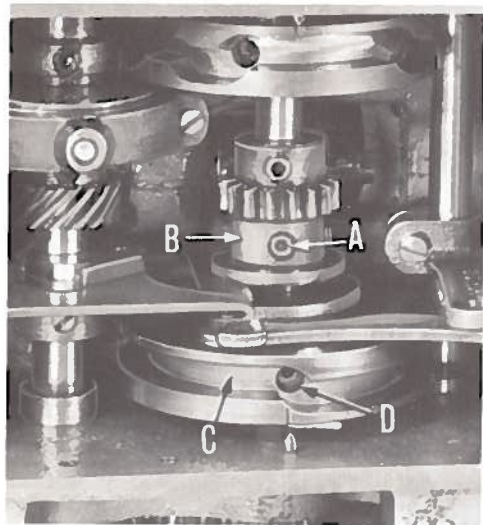

Fig. 15
On Style 200-10, the pull-off lever has an additional adjustment which causes it to function in the middle of the cycle during the cutting of the cross-over stitch. Loosen three socket head screws (A, Fig. 15) in cam (B).
Turn cam (B, Fig. 15) to the right, as you face it, until the lobe stops against the projection on the nipper operating link, and retighten three socket head screws (A).
To make corrections to knife timing, place machine in stop position for starting subsequent adjustment. Take machine out of stop position and turn the pulley two complete revolutions in operating direction. Loosen knurled base clamping screw and lay machine on its side. Turn pulley in operating direction until the first screw in cam (C, Fig. 15) comes into view, and loosen this screw. Continue to turn pulley until machine is again in stop position, and loosen screw (D). Turn cam (A) slightly to right to speed up knife timing, and to the left to retard it. Tighten all screws securely.